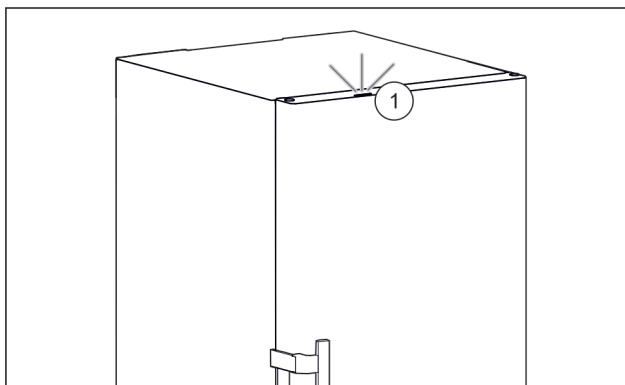

Fig. 61 Active status light when the door is closed
- ▷ Status light Fig. 61 (1) is activated.